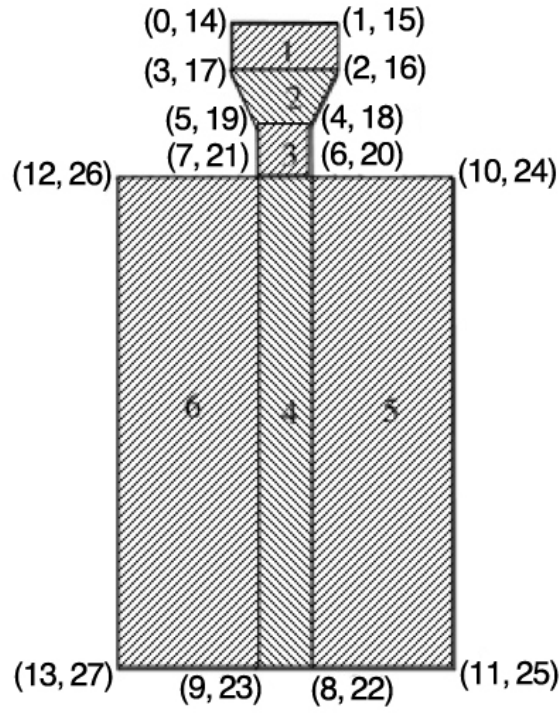

Figure 7: Block structure.
4. The Mesh is currently set up for modelling a dam break problem, we will now edit the `blockMeshDict` file to suit our case. The geometry is divided into 6 blocks as shown in Fig. 7